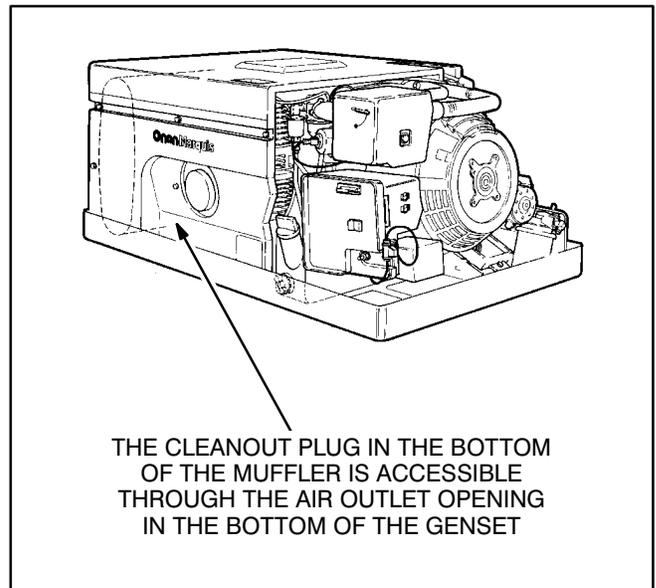

FIGURE 17. SPARK ARRESTOR CLEANOUT PLUG
1. Remove the cleanout plug from the bottom of the muffler (Figure 17).